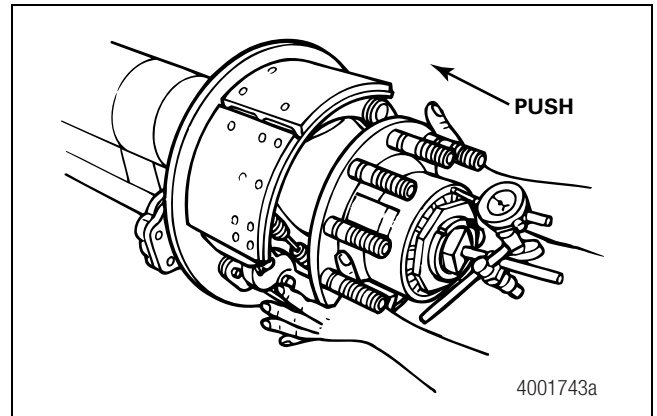

Figure 2.12
3. Push the hub INWARD until the dial indicator does not change. Do not rotate the wheel end. Set the dial indicator to ZERO. Figure 2.12.